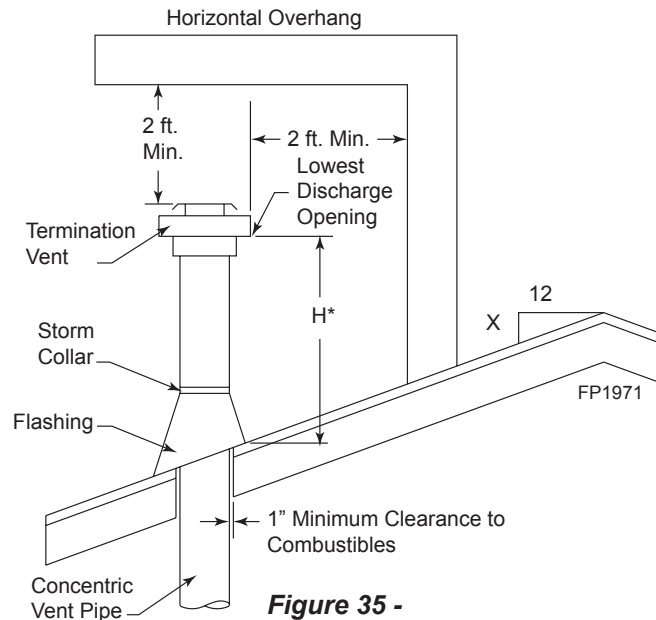

Figure 35 -
- For the minimum height of the vent above the highest point of penetration through the roof refer to Page 24, *Figure 35*.
- Continue to add pipe sections until the height of the vent cap meets the minimum requirements as shown in *Figure 35.*